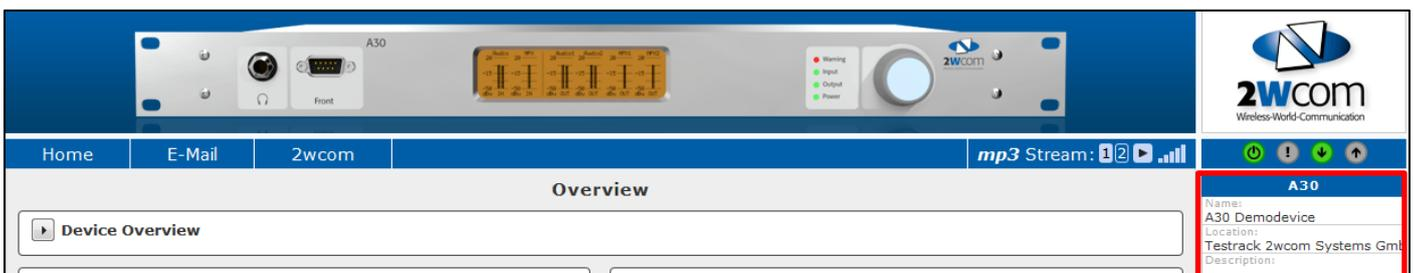

Fig. 62: Global Settings – Device Information
2. The device information is always displayed in the top right field of the web interface of the device (see Fig. 62).